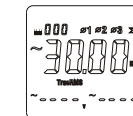

Figure 9-7
- As shown in Figure 9-7, total three-phase active power can be displayed by pressing SELECT key finally.